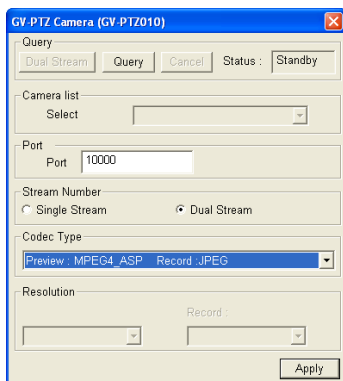

Figure 7-4
- The GV-DVR / NVR will automatically query for the IP camera, and the status will be indicated as "Standby". If not, modify the HTTP port (Figure 7-3) and streaming port (Figure 7-4) to match those of the IP camera, and click the **Query** button to detect the IP camera again.